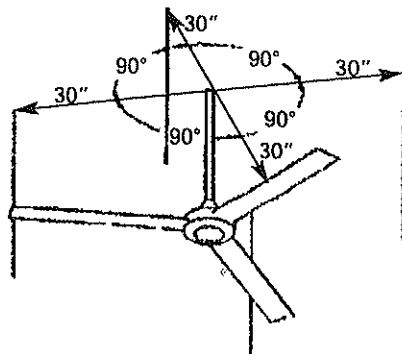

Figure 1
1. Install (4) support chains 90° apart on 30 inch radius (see Figure 1).